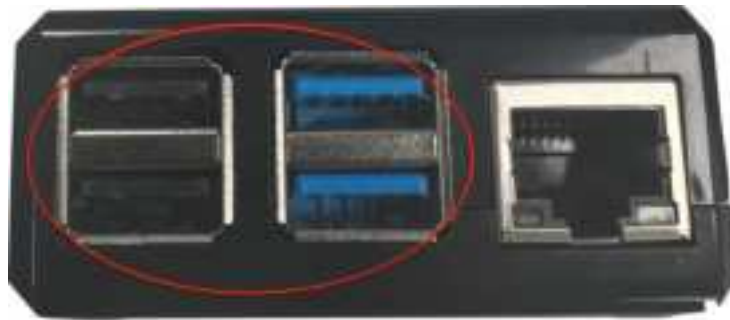

Figure 3 USB data ports on Element-D
11. Plug the USB end of the USB-to-Serial connection cable into the data port on the Element-D. The USB connector may be plugged into any USB port on the Element-D (shown in Figure 3).